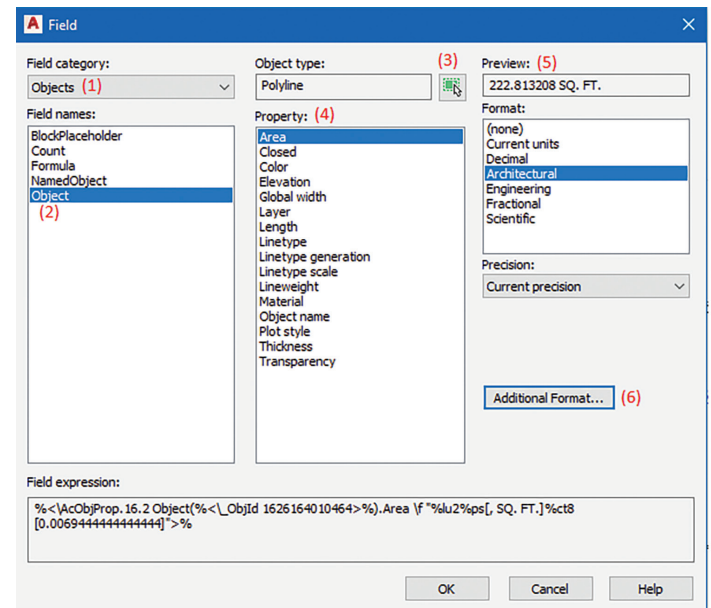

Figure 1
interface (GUI). The Field GUI is neither friendly nor easily understandable. You would have to go through the following complicated and tedious steps every time before an object's area value can be retrieved; let alone placed into the drawing (see Figure 1):
- How do you select an object like a Polyline or Hatch at this point to retrieve the area value? (Answer: After more research online, I found out that inside the Formula window you need to right mouse click, select Insert Field from the context menu which will bring you back to the initial Field GUI to start the object selection process – again see Figure 1.)